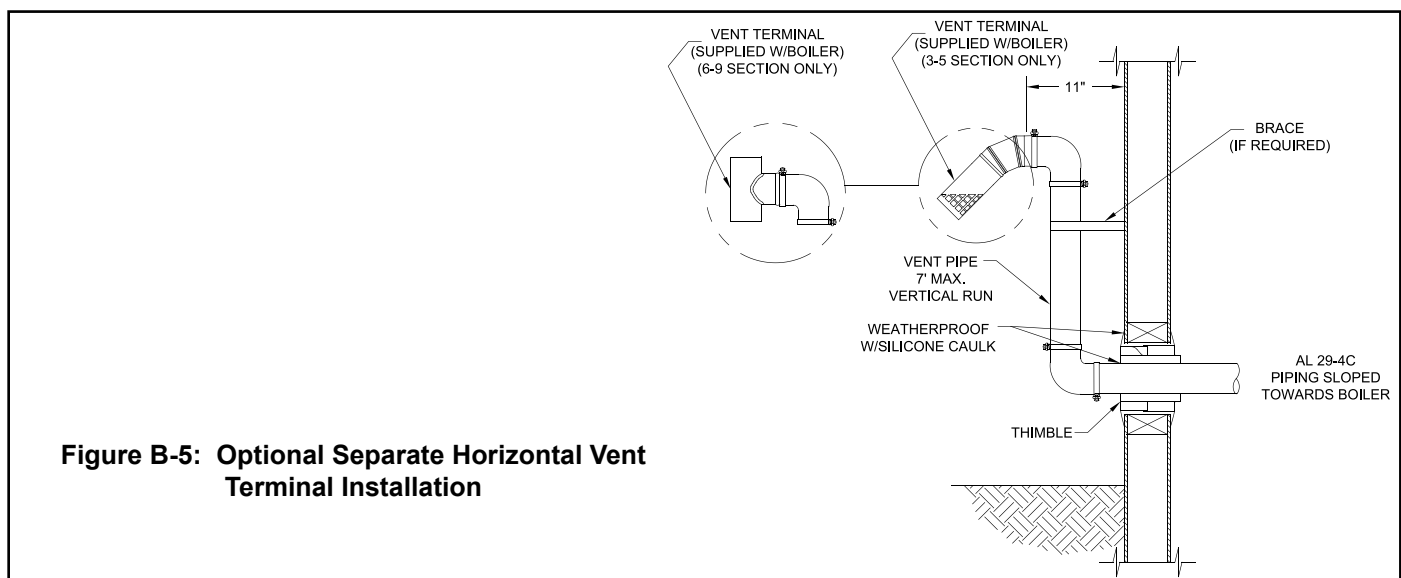

Figure B-5: Optional Separate Horizontal Vent Terminal Installation
4. To install a vertical "snorkel" exterior to the building, refer to Figure B-5 or B-6.